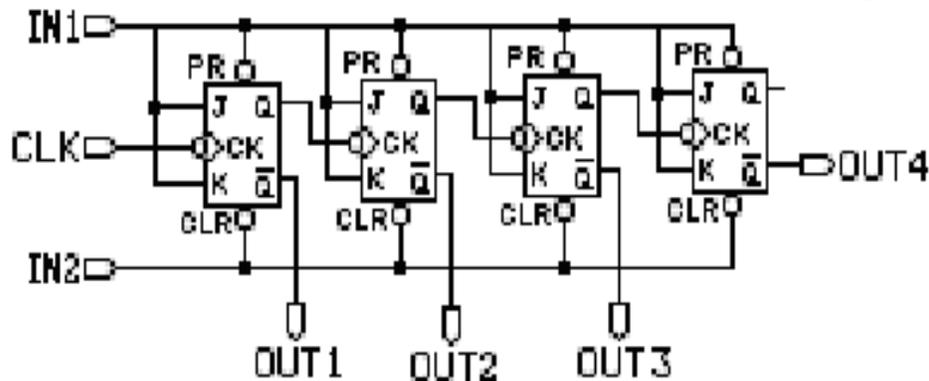

Figure 7-8
1. Four bit binary down counter asynchronous counter circuit, as Figure 7-8.